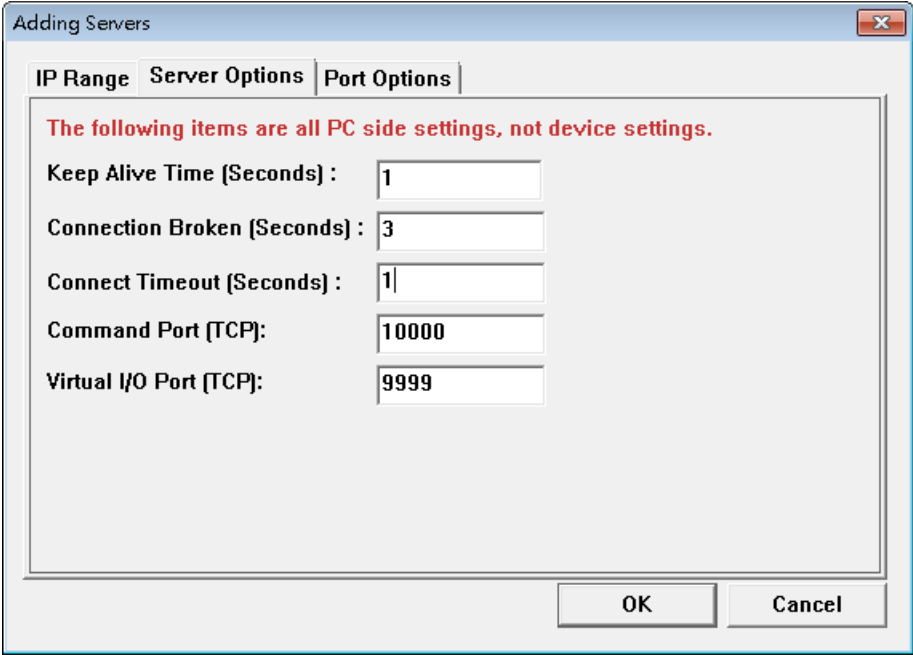

Figure 7.10.16
H. Then click on the Server Options at the top of the window and follow the screen setting parameters as shown in Figure 7.10.16. After setting, select "OK". ◦